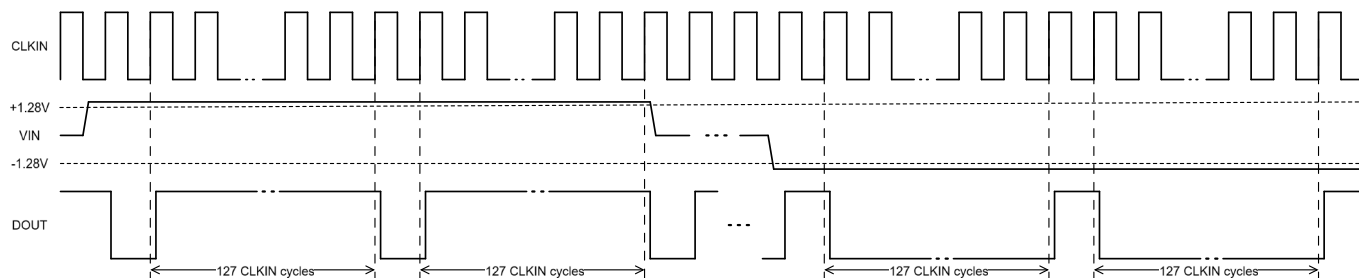

Figure 8.3 Overage output
- If an overrange input signal is applied to the NSI1316-Q1 ($V_{IN} \geq V_{CLIPPING}$), the output generates a single 0 or 1 every 128 clock cycles, as shown in Figure 8.3.